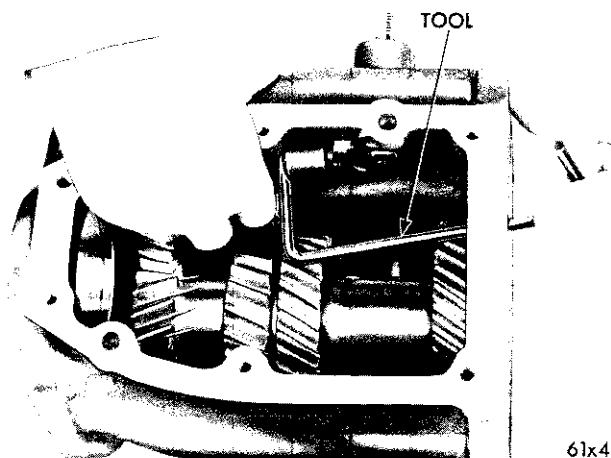

Fig. 26—Installing Detent Balls
(1) Place two new shift lever shaft seals centered in their bores in the case. Using Tool C-3766, drive both seals into the case, until the tool bottoms.
(2) Install seal protector, Tool C-3767, on the end of low and reverse lever shaft, then slide the shaft into the rear boss of the case and through the seal. Lock in position with the tapered pin. Turn the lever until the center detent is in line with the interlock bore.
(3) Slide the interlock sleeve in its bore in the case followed by one of the interlock balls. Install the interlock spring and pin.
(4) Place the remaining interlock ball on top of the interlock spring, using Tool C-3765, (Fig. 26). (A good method of installing the second ball is to stick the ball in the tool recess by means of lubricant, then use the tool to position the ball on the detent spring.)
(5) Install seal protector Tool C-3767, on the second and high lever shaft, depress the interlock ball, using Tool C-3765 and at the same time install the second and high lever into the fully seated position, with the center detent aligned with the detent ball. Remove the tool. Secure the lever shaft with the remaining tapered pin.
(6) Install the operating levers, install and tighten the retaining nuts securely.
(7) Place the low and reverse fork in the lever shaft, with the offset toward rear of transmission.